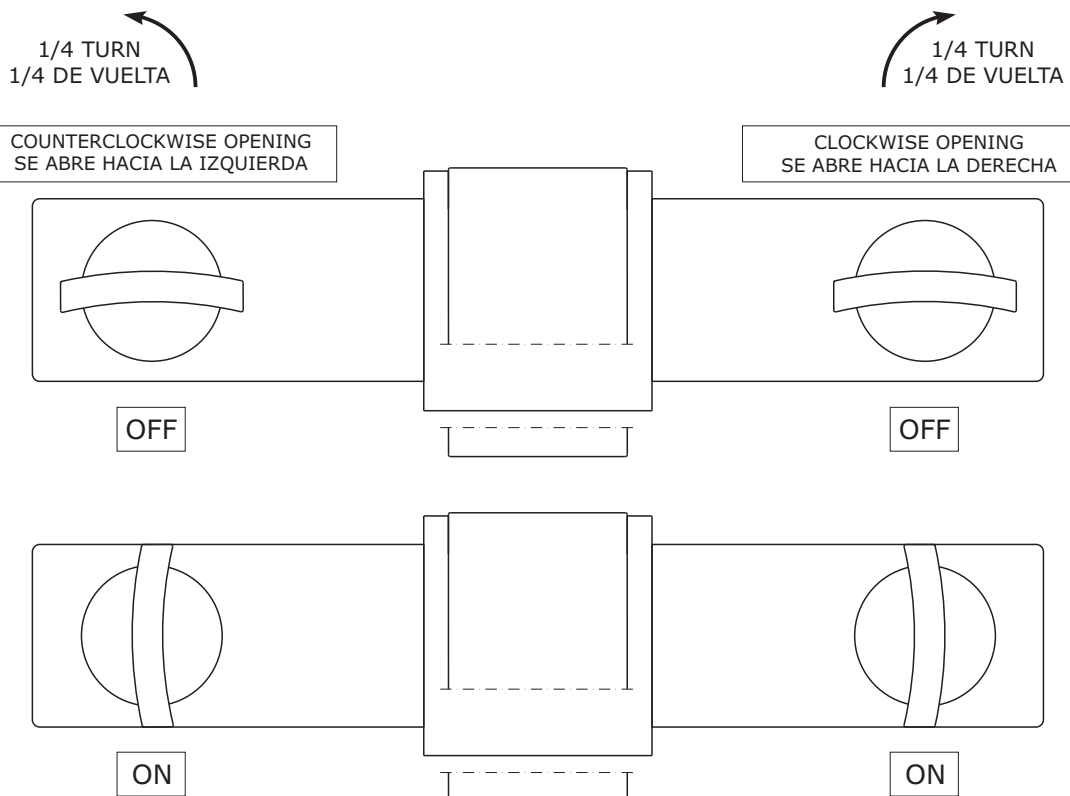

FIG. 1B
- ➔ Set the handle as on fig. 1B „OFF” position.
- ➔ Thread in the valve home, then release the valve 0.5 to 1.5 turn. Position the handle (10) as on fig. 1B. Tighten lightly the counter nut (13) on the valve (fig. 5.3).